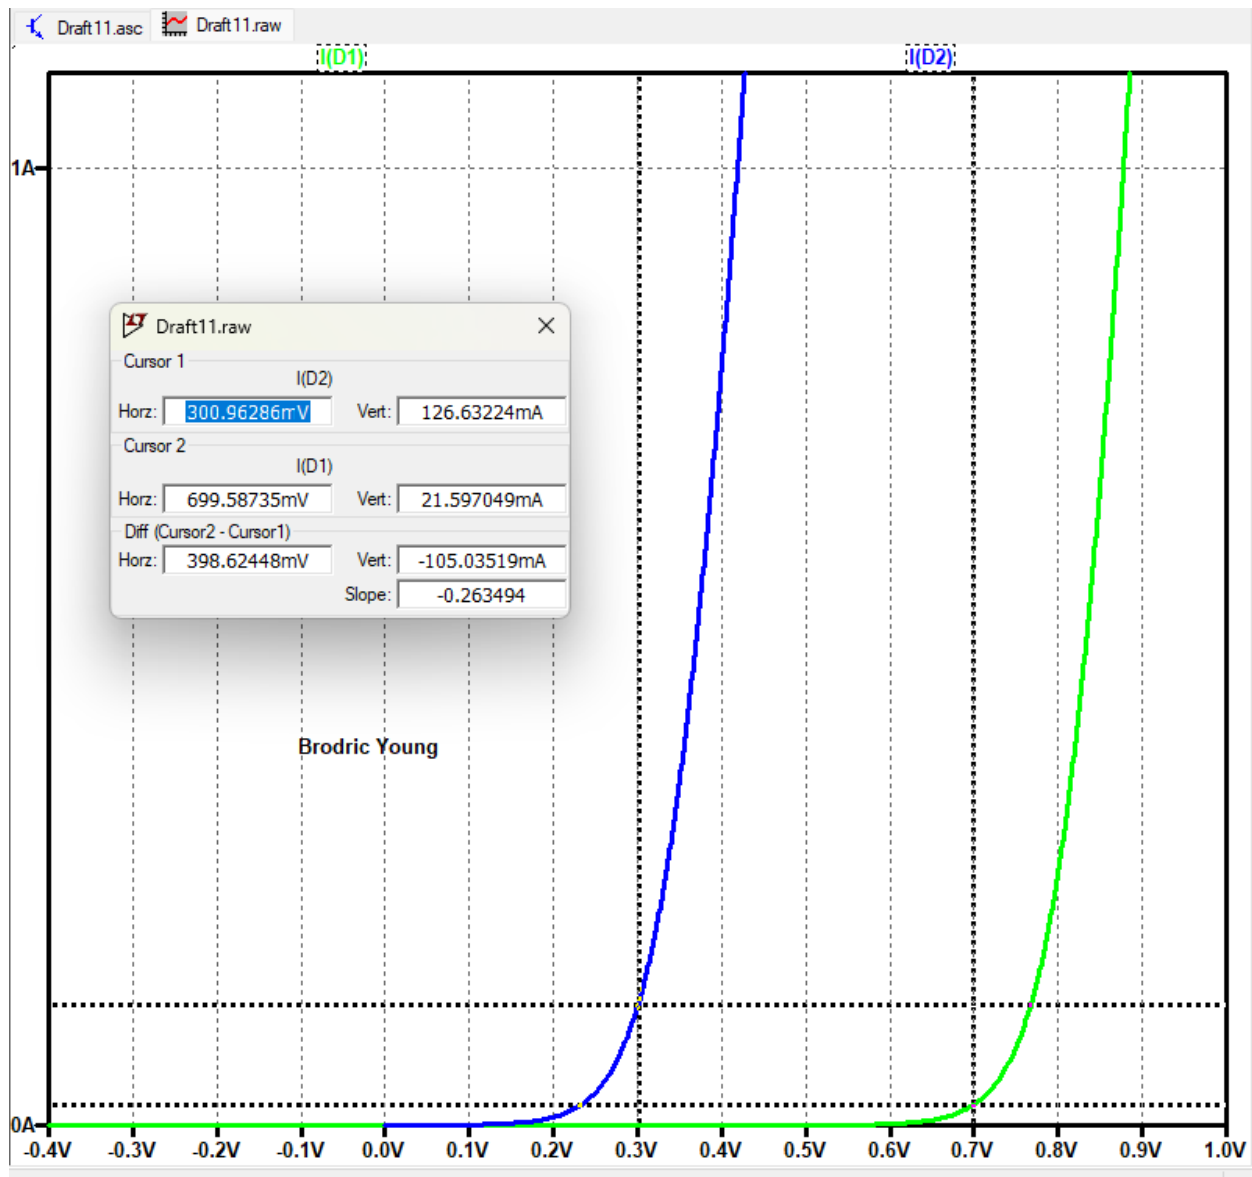

Figure 3: I-V Characteristics of a 1N4007 silicon pn junction diode and a 1N5819 Schottky Diode.
- Replace the plot pane shown in **Figure 3** below with your version, including your name, along with the cursor pane indicating diode currents. (7 points.)
1. Given the I-V characteristics of the 1N4007 and 1N5819 diodes in **Figure 3**, which diode has the largest forward (static) resistance in the forward biased region? (1 point.)